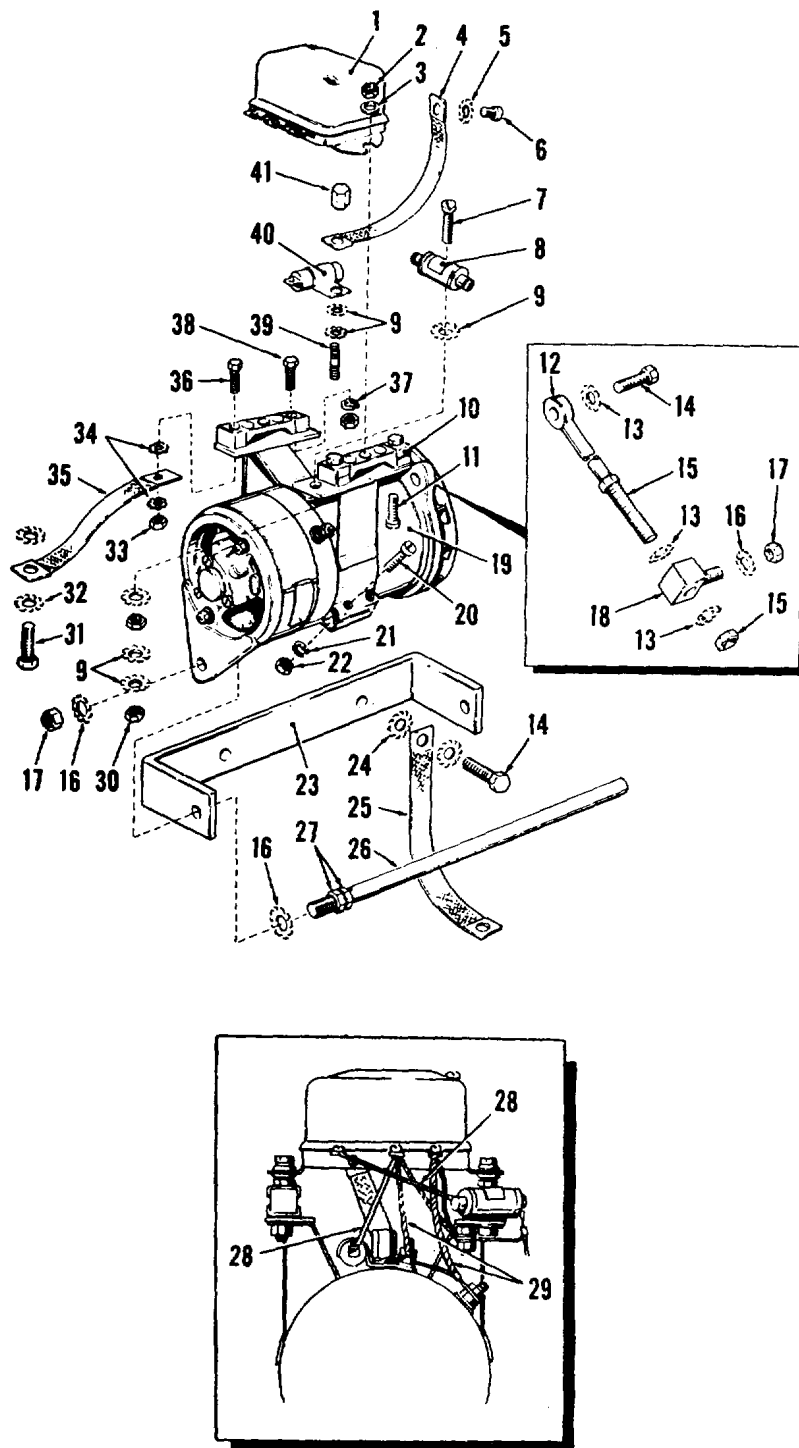

Figure 32. Exploded view of generator and regulator mounting parts.
- (1) Remove the three regulator terminal screws and disconnect the electrical leads (28 and 29) from the regulator terminals. Tape together and mark each group of wires so that they can be reinstalled easily.
- (2) Remove the ground screw (6) and lockwasher (5) that attach the bond strap (4) to the regulator cover.
- (3) Remove the three hex nuts (2), lockwashers (3) and mounting screws (11) that fasten the regulator to the regulator support (10), and lift off the regulator (1).
b. Installation (fig. 32).
- (1) Position the regulator (1) on the regulator support (10) and install the three mounting screws (11), lockwashers (3) and hex nuts (2).
- (2) Attach the bond strap (4) to the regulator cover with the ground screw (6) and lockwasher (5).
- (3) Attach the electrical leads (28 and 29) to the regulator terminals with the terminal screws.
a. Generator Belt Tension Adjustment (fig. 32). Check the tension of the generator drive belt by pressing against the belt with the thumb at a point midway between the generator pulley and crankshaft pulley. It should be possible to depress the belt approximately 1/2 inch without too much effort. To adjust belt ten-